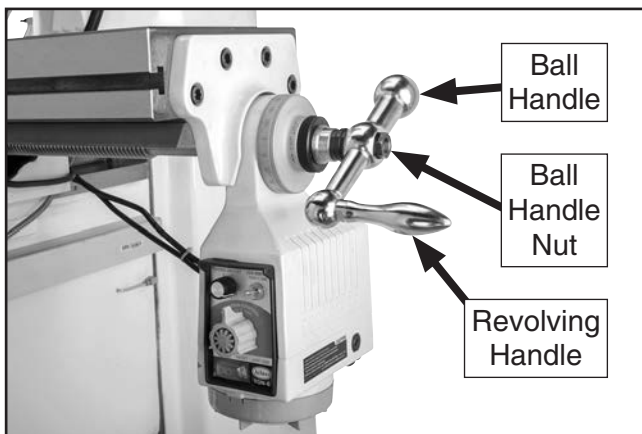

Figure 18. Ball handle installed on X-axis leadscrew.
1. Remove ball handle nuts from X- and Y-axis leadscrews, slide ball handles onto leadscrews, and secure with ball handle nuts (see **Figure 18**).
2. Thread revolving handles into small end of ball handles (see **Figure 18**) and tighten them with 14mm wrench.